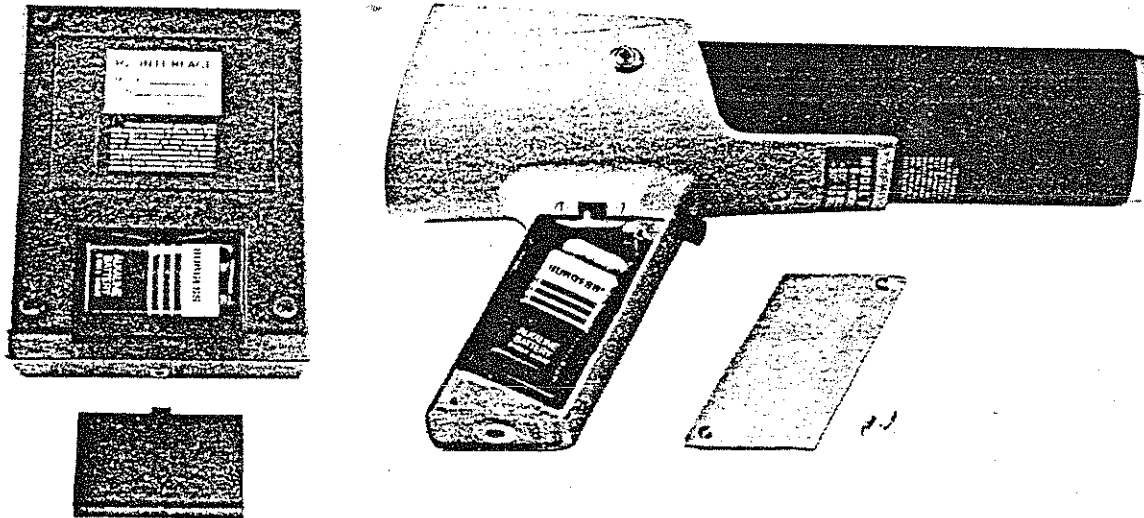

Figure 8. Battery Compartments
2. Remove the 2 screws that secure the battery compartment cover and remove the cover (see Figure 8).
2. Remove the battery compartment cover (see Figure 8).